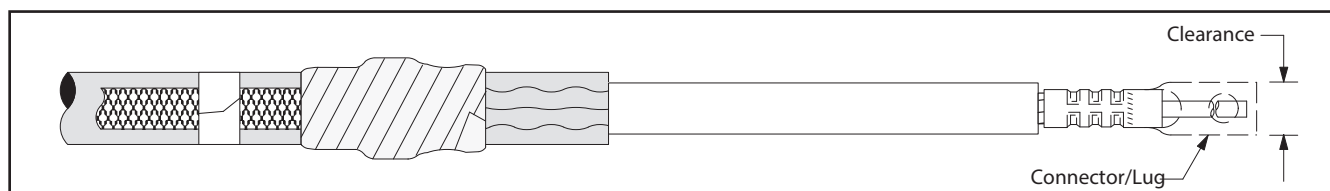

Figure 23
- 14.1 **Check to insure 3M Cold Shrink QT -III Silicone Rubber Termination fits over the selected lug or connector BEFORE installing the lug or connector.** If lug or connector (Figure 23) will not fit through the termination core, clean the insulation (per Step 15.0) and slide termination on cable before installing lug or connector. **DO NOT REMOVE CORE AT THIS TIME.**